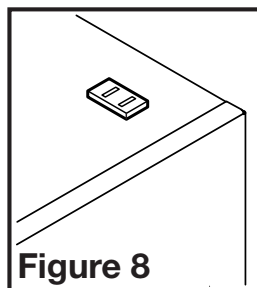

Figure 8
1. The LIN series is equipped with a receptacle on the top of the hood that accepts a 24VAC transformer to make an electrical connection to a motorized damper (sold separately) (Figure 8).